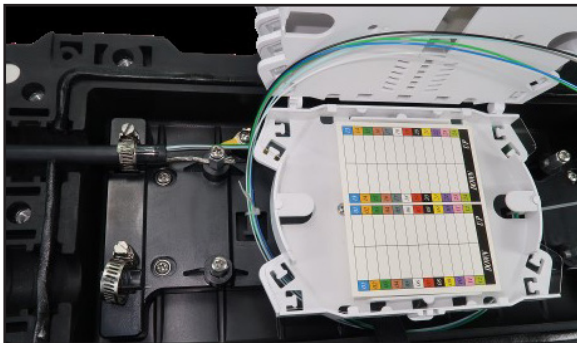

Figure 1-12: Install pass-through cable through other cable entry
- 11 Install the pass-through on the other side (Figure 1-12).